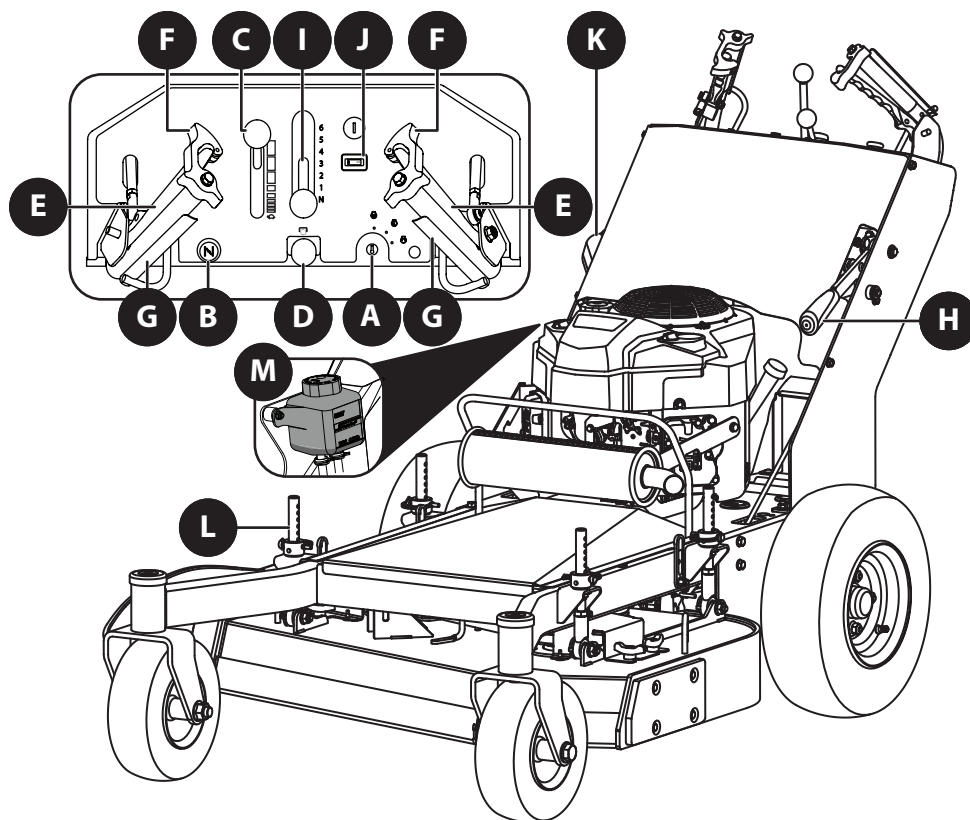

Figure 3
- a. Move the speed control lever (I in Figure 3 on page 7) forward to about one third of full speed (position 2) until you are fully familiar with the operation of the mower.